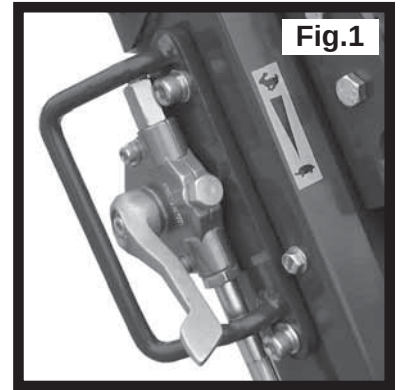

Fig.1
1. To stop the engine, set the throttle control to idle (See Fig. 1), then press and hold the red stop button for 5 seconds until the engine stops (See Fig. 2).
1. To stop the engine, set the throttle control to idle (See Fig. 1), then pull red stop handle until the engine stops (See Fig. 2).